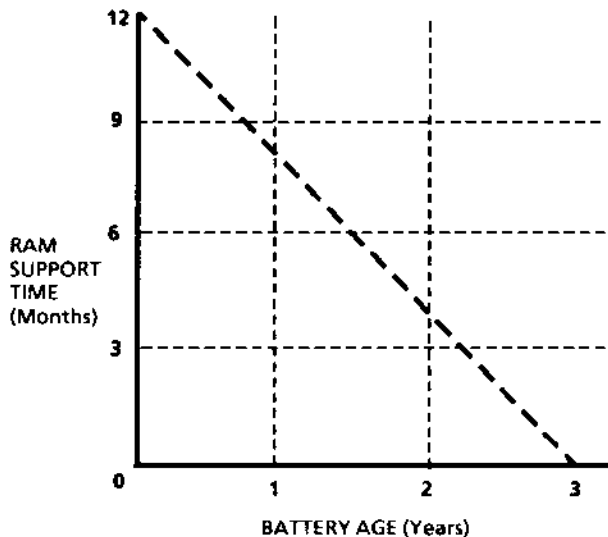

Figure 21 RAM Support Time vs. Battery Age
- The age of the power supply batteries affects how long they can maintain an adequate voltage. See Figure 21 for battery derating curve.